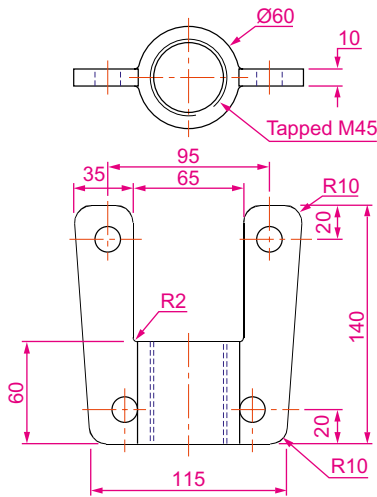

Fig. 15.20 First example – Rendering – two-view projection
1. Construct a 3D model of the wing nut shown in the two-view projection (Fig. 15.20).